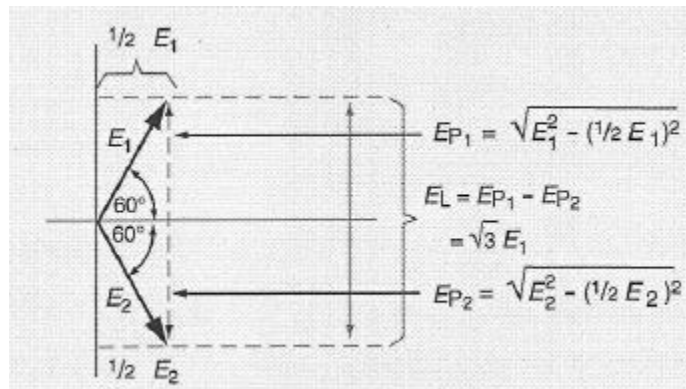

Figure 7.6: Vector Diagram for Calculating  $E_L$
- 7-12 The peak of the curve for  $E_L$  occurs when the instantaneous values of  $E_p$  for the two coils are equal and opposite, as shown in Figure 7.6. You can prove this statement to yourself by calculating  $E_L$  for various instantaneous values of  $E_p$ . The peak occurs twice — once when the vectors  $E_1$  and  $E_2$  are in the positions shown in Figure 7.6, and again after each vector rotates  $180^\circ$ . One peak is a maximum, and the other is a minimum on the  $E_L$  curve.
- 7-13 The phase voltage across each coil is the vertical component of the vector labeled  $E_1$  or  $E_2$ . The value of  $E_L$  is the *vector difference* between the two vertical components of  $E_1$  and  $E_2$ . These vertical components are labeled  $E_{P1}$  and  $E_{P2}$  in Figure 7.6. Their vector difference is twice the value of either one, because the two vertical components are in opposite directions.
- 7-15 The vector difference,  $E_L$ , between these two vertical components is twice the value of one component, as shown by the vector on the right in Figure 7.6